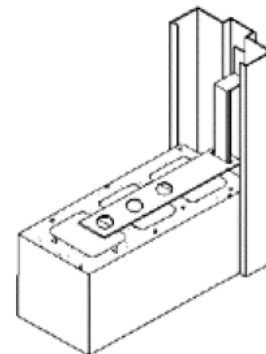

Figure 15
4. Anchoring: As wall is laid up, locate the anchors at the hinges in the hinge jamb and at a corresponding position in the strike jamb. Grout frame fully as the wall is laid up around the frame. Continually check plumb and square and twist in the jamb as wall progresses. (Figure 15)